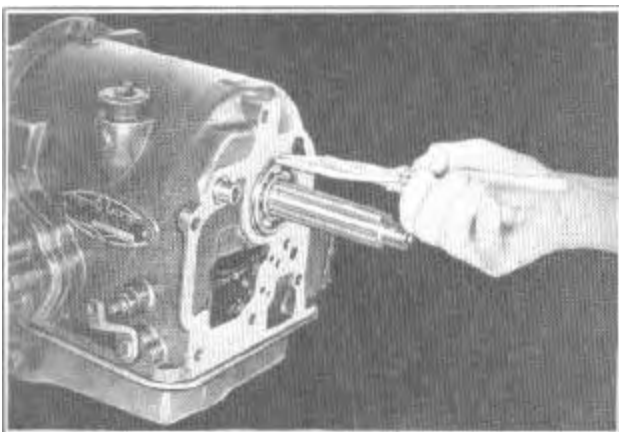

FIGURE 91
9. Remove the mainshaft rear bearing lock ring using KMO-630 Snap Ring Pliers, Figure 91.
2. Install the mainshaft rear bearing lock ring, Figure 91, then push the mainshaft forward until the lock ring rests against the transmission case.